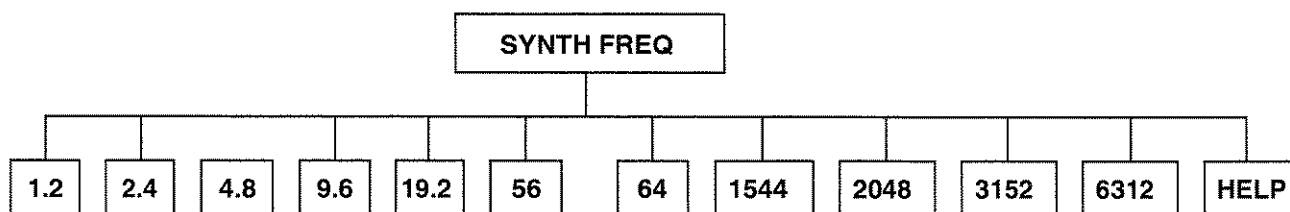

Figure 2-4
A synthesizer frequency can be selected from the set available in the menu (see Figure 2-4); however, any frequency can be specified using the MENU keypad. In such instances, frequencies are entered in kHz and must be within the range of .05 to 15000 kHz. When a frequency outside of this range is entered, the FIREBERD recognizes the entry as illegal and restores the previous setting without disrupting the test in progress. Please note that a newly specified frequency is not current until the **ENTER** key is pressed.
3. Auxiliary function 32 enables the user to program the MENU softkeys so that commonly used frequencies (other than the factory settings shown in Figure 2-4) are available as SYNTHFREQ menu selections. See Table 2-2 for a description of this capability.